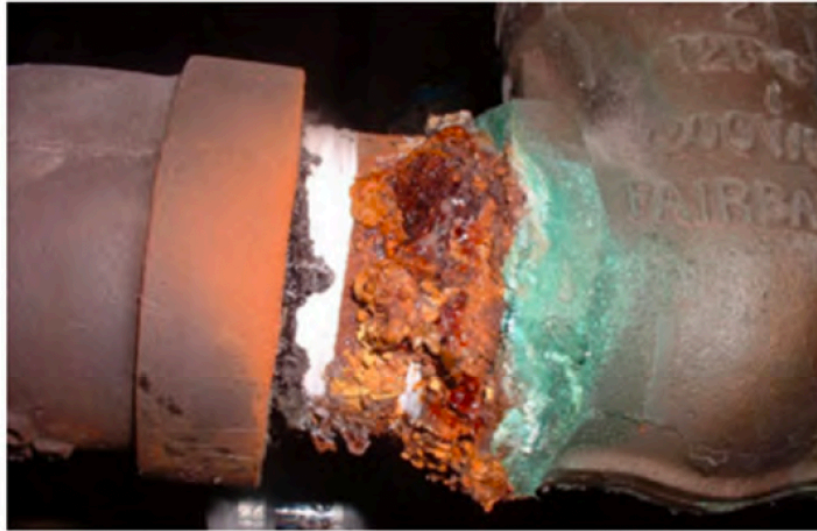

Fig. 5.5: An example of galvanic corrosion in oil and gas pipelines
- **(Fig. 5.5):** Galvanic corrosion in an oil and gas pipeline.